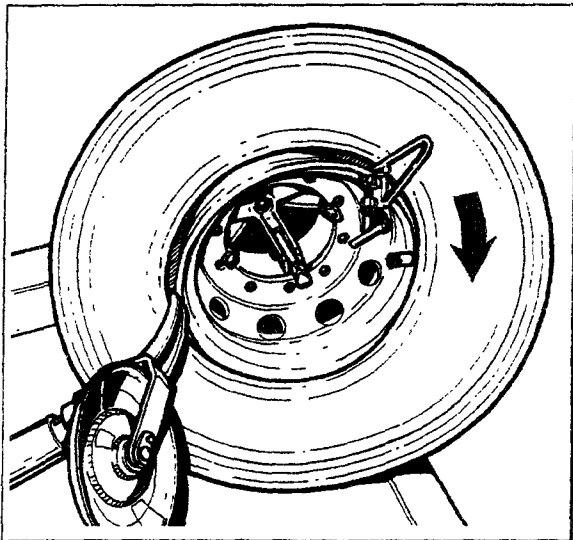

Fig.28
- Lift the chuck arm and position the mounting hook or tubeless roller approximately 1.5 cm (1/2") to the inside of the rim edge and approx. 1.5 cm (1/2") away from the rim edge (Fig.28). The mounting clamp is at 11 o'clock approximately.